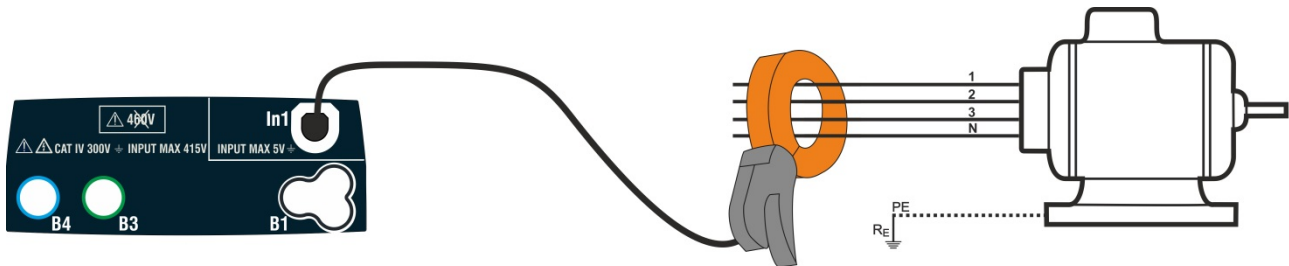
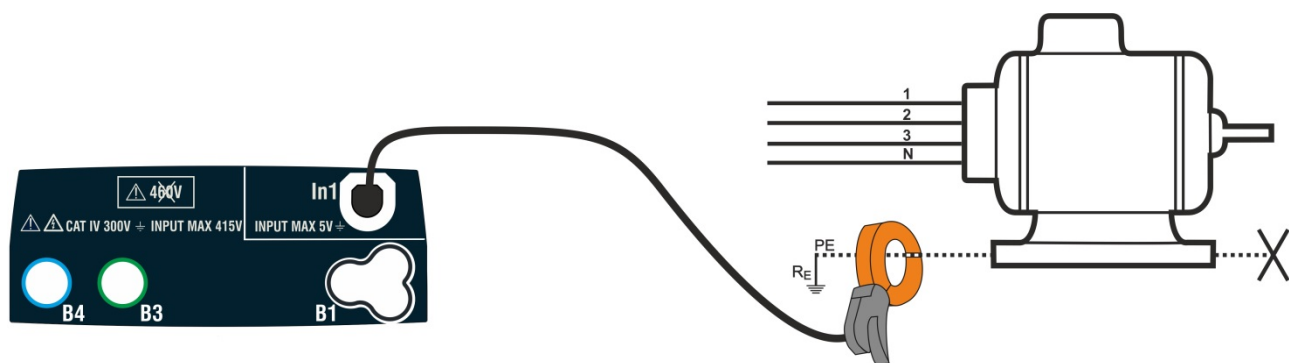

Fig. 33: Indirect measurement of leakage current in three-phase systems
Fig. 34: Direct measurement of leakage current in three-phase systems
4. For indirect measurements of leakage current, connect the external clamp according to Fig. 33. For direct measurements of leakage current, connect the external clamp according to Fig. 34 and disconnect possible additional earth connections which could influence the test results.